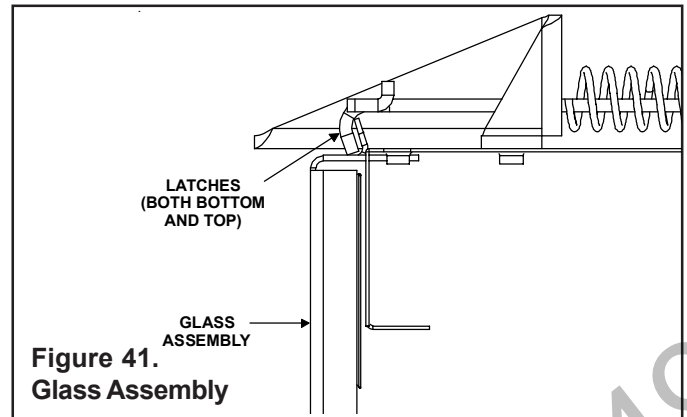

Figure 41. Glass Assembly
- Pull the four glass latches out of the groove on the glass frame. Remove glass door from the unit (see Figure 41).